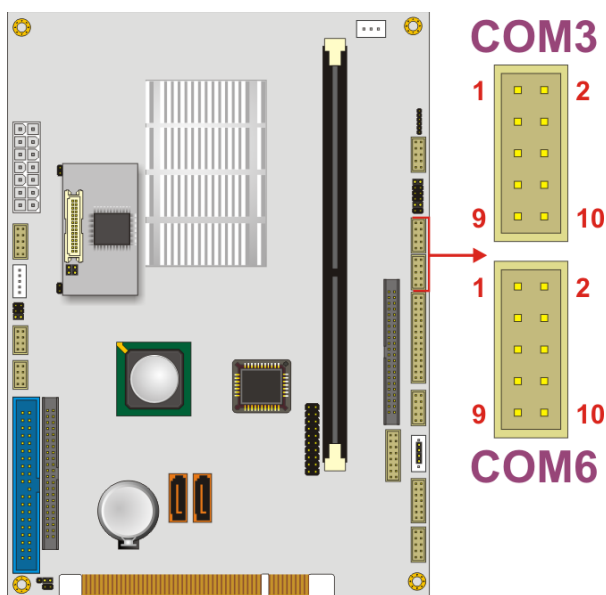

Figure 3-17: RS-232 Serial Port Connector Locations
- CN Location:** See Figure 3-17